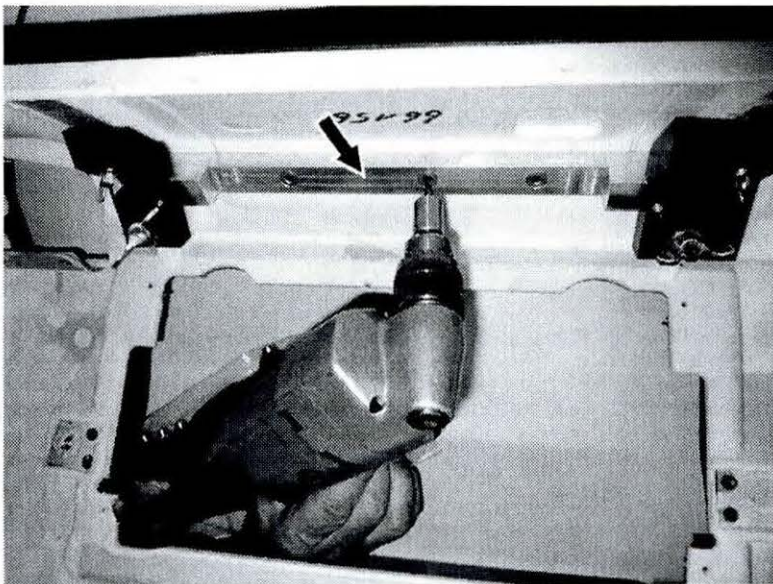

Figure 12
6. Drill holes (3x) in instrument panel using the drilling template (arrow, Figure 12).
7. Remove drilling template (arrow, Figure 12).